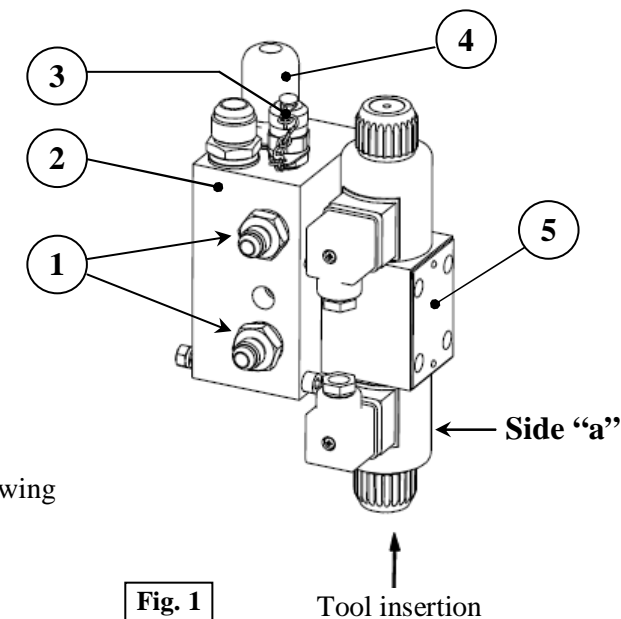

Fig. 1
- **Checking the level:** The indicator Ref.① located on the side of the hydraulic tank lets you check the inside oil level. With the machine perfectly horizontal, the oil level must be between the zone defined in Fig. 1 (minimum recommended level) and the upper part of the level indicator Ref.① (maximum level).
- **Oil change:** The tank is drained via the plug Ref.③ situated beneath the tank (Fig.1).
- **Cleaning the oil filter:** After 50 hours of operation, then every 500 hours, clean the oil filter (Fig.1).
- ❶ Disconnect the 2 couplers Ref.❶ of the hydraulic block Ref.❷.
- ❷ Fit a pressure gauge to the plug Ref.❸.
- ❸ Start the engine (Cf §4.1.2 "Starting and stopping the engine").
- ❹ Manually activate the hydraulic distributor Ref.❺ on side "a" (to do this insert any metal tool of Ø 3 max in the central hole of the adjustment handful) as indicated in Fig.1.
- ❶ Remove the cap Ref.❹ (Fig.1), then unscrew the locknut Ref.❷ (19 spanner) and adjust the pressure while screwing on or unscrewing the adjustment screw Ref.❸ (flat-head screwdriver) (Fig.2).
- ❷ Tightening the screw Ref.❸ increases the pressure, loosening it decreases the pressure.
- ❸ Proceed by small successive adjustments until you obtain **200 bars.**
- ❹ Screw the locknut Ref.❷ back in, then refit the cap Ref.❹
- ➊ Remove the pins Ref.➋ and washers Ref.➌ to free the insertion and extraction tools Ref.➍ (Fig.1).
Each week, put some grease in the greaser Ref. ⑥ (Fig.1) located on the frame of the machine.